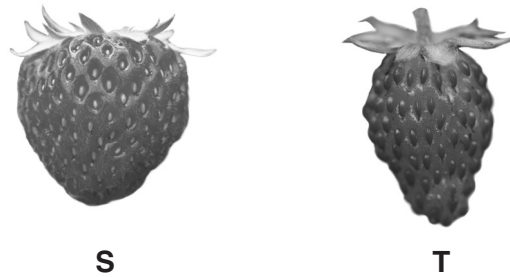

**Fig. 2.2**
- (c) Fig. 2.2 shows two different strawberry fruits, **S** and **T**, from species of strawberry plants that grow in different habitats.
- (i) Describe **two similarities**, visible in Fig. 2.2, between the two fruits.
- (ii) Complete Table 2.1 to describe **two differences**, visible in Fig. 2.2, between the two fruits.